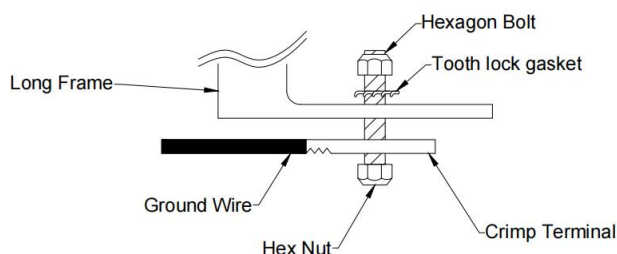

Figure 6-1 Module Grounding
- 5) The grounding hole on the long side frame is crimped with bolts and crimping terminals, and installed with M4 nuts. In addition, water may leak into the module frame at the ground wire installation part, so it is recommended to use a higher positioned grounding hole when grounding. (Grounding hole ϕ 5.1) Ground wire connection is shown in Figure 6-1. All conductive connection points must be firmly connected. If the grounding requirements of Solargiga cannot be met and any problems related to grounding occur, our company will not be liable.